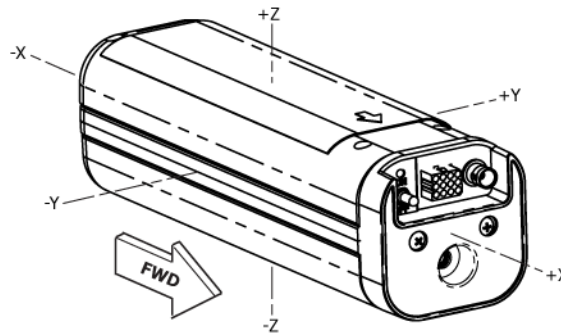

Figure 1 ELT Orthogonal Axes
- 1) The C406-2HM ELT was developed for helicopter installations and features an additional 5-axis G-Switch module, which allows the ELT to be activated in any of six axes. See Figure 1.